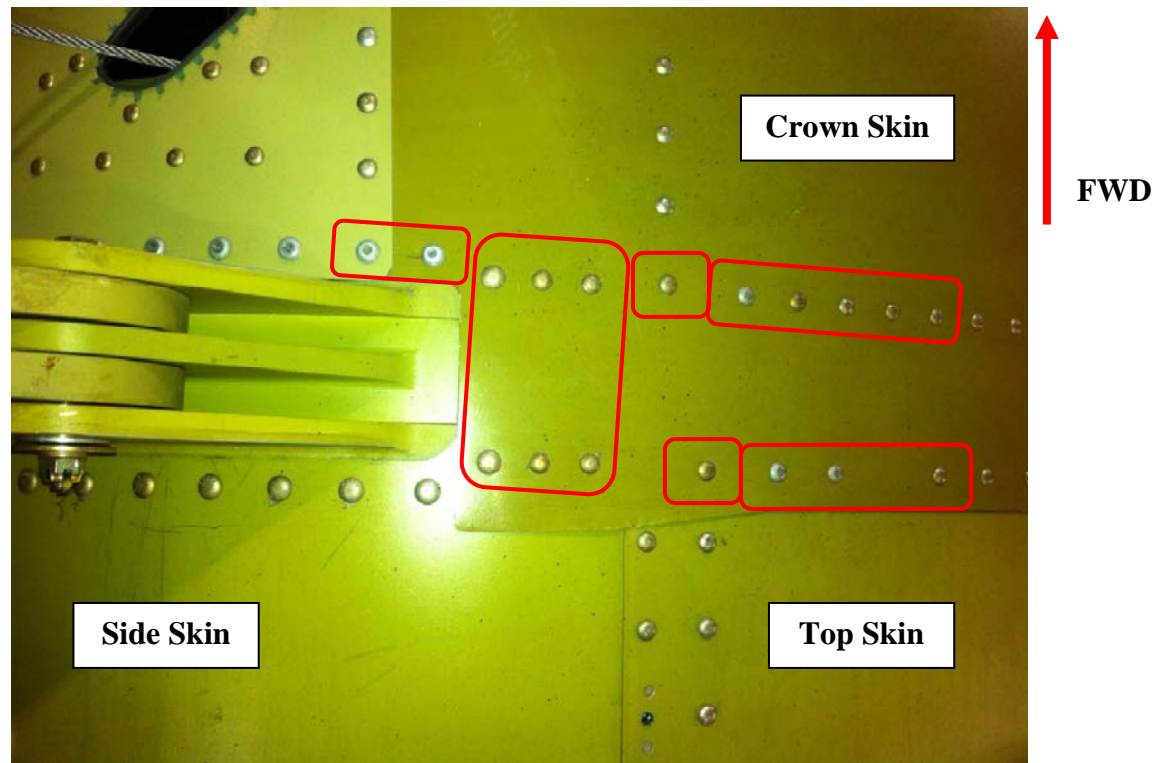
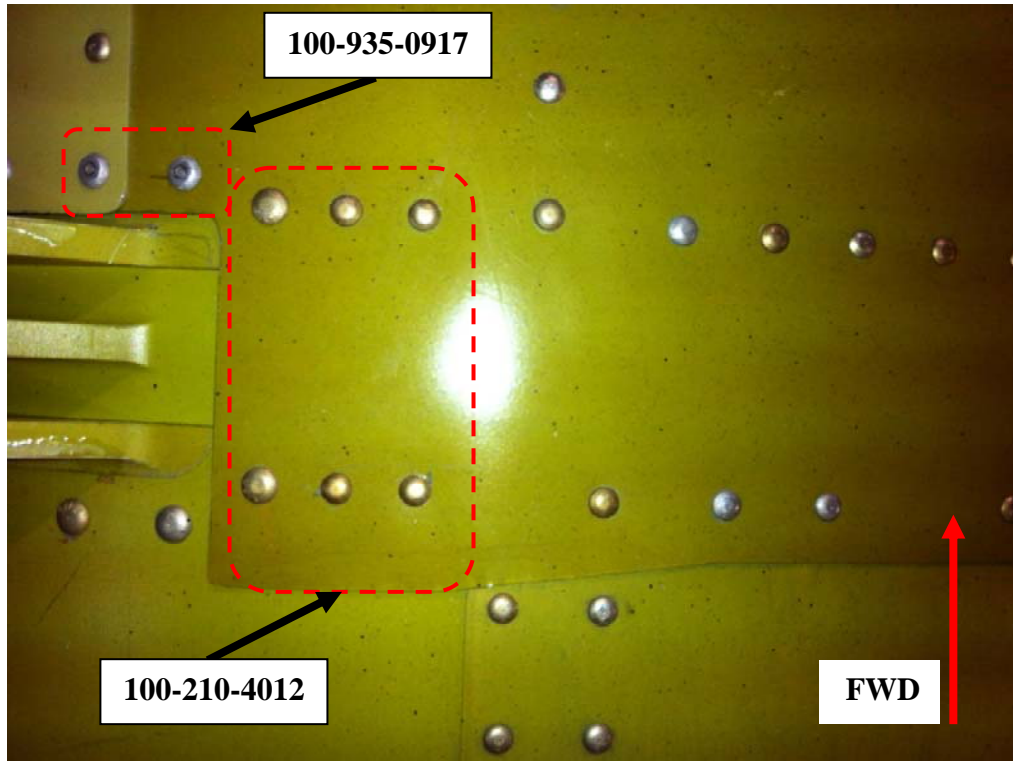
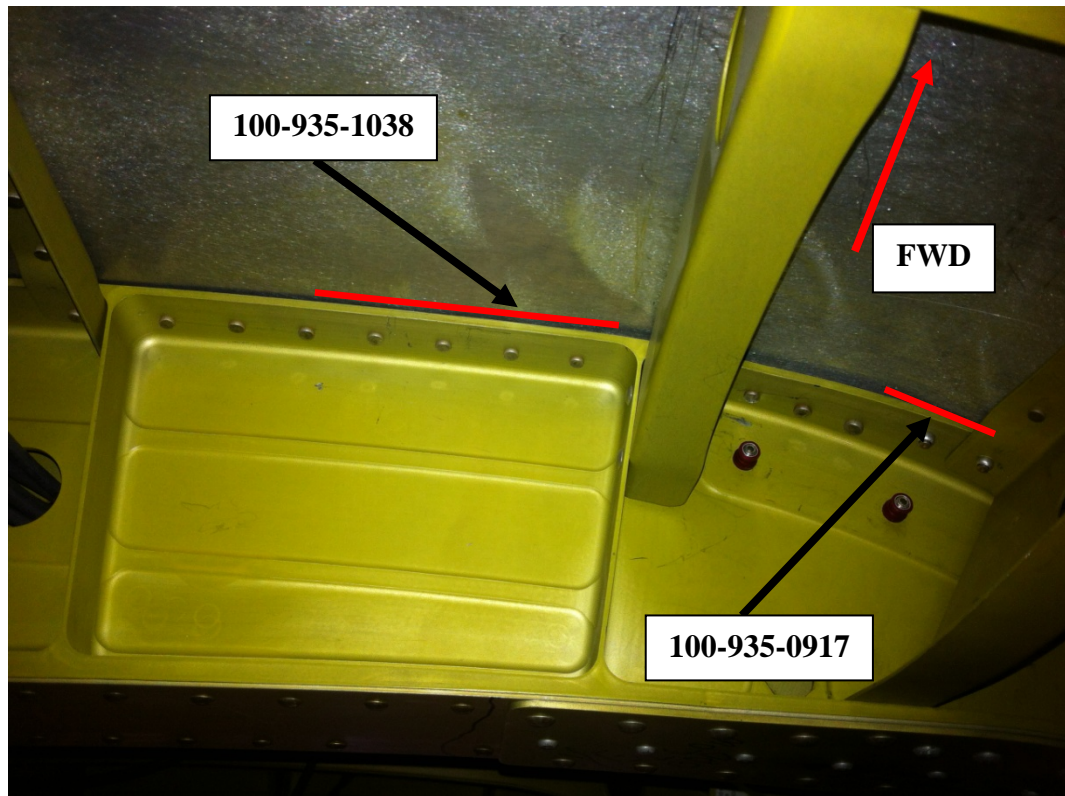
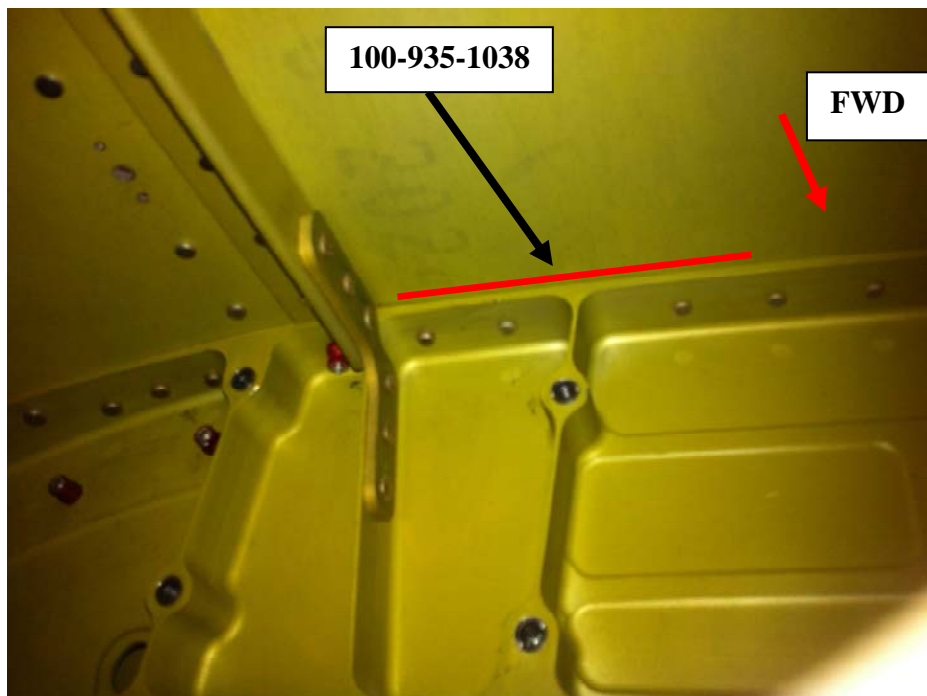

Figure 5-2: Detail View of Figure 5-1 (Left Side) With Fairing Removed
Figure 5-3: View Looking Down on Exterior Shim Location
Figure 5-4: View Looking Aft and Up Inside Cabin at Forward Carrythru Frame
Figure 5-5: View Looking Forward Inside Cabin at Forward Carrythru Frame
1. Drill out the rivets shown in the **Figure 5-2**.
2. Correctly position the shims (P/N 100-935-0917, 100-210-4012, and 100-935-1038) as shown in **Figure 5-2** through **Figure 5-5**, and backdrill to match existing rivet holes.
4. Install the shim (P/N 100-935-0917) in the location indicated in **Figure 5-3** and **Figure 5-4** using rivets (P/N CR3213-5). Shim is to fill the skin lap gap between the crown skin and frame.
5. Install the shim (P/N 100-210-4012) in the location indicated in **Figure 5-3** using rivets (P/N MS20470AD5) in the two outboard holes, and rivets (P/N MS20470AD4) in the four inboard holes. The shim is to fill the skin lap gap between the crown skin and side skin.
6. Install the shims (P/N 100-935-1038) in the locations indicated in **Figure 5-4** and **Figure 5-5** using rivets (P/N MS20470AD4). The shim is to fill the skin lap gap between the top skin and frame.
7. Inspect between the crown skin and top skin in the four (4) locations where the shims (P/N 100-935-1038) have been installed: